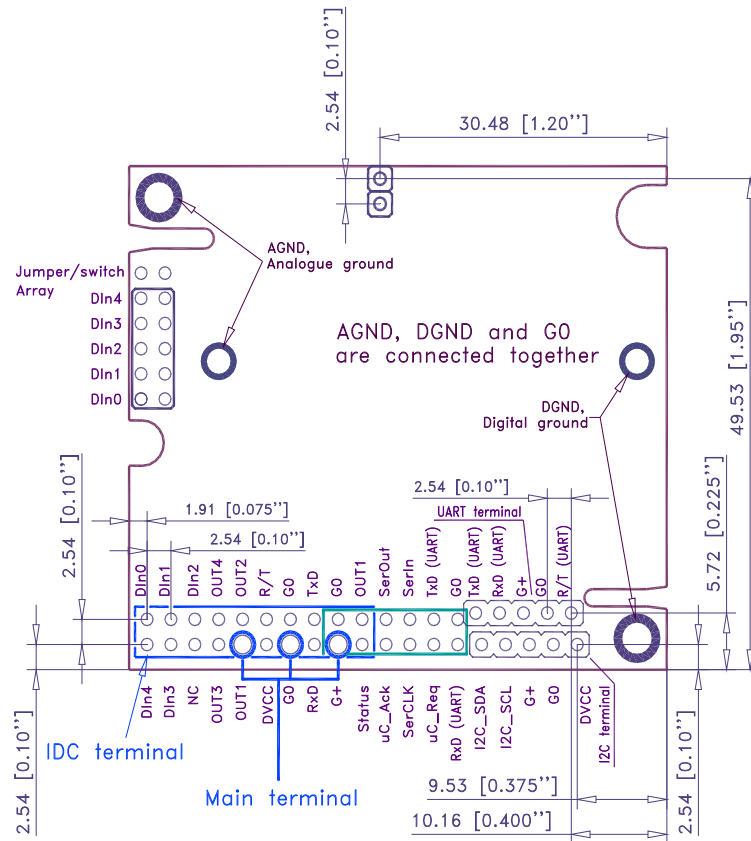

Figure 2 . *CO₂ Engine[®] K30* I/O notations, terminal positions and some important dimensions for mounting the K30 platform PCB into a host system (Top view).
The table below specifies what terminals and I/O options are available in the general **K30** platform (see also the layout picture Fig. 2). Please note, however, that in the **CO₂ Engine® K30** default configuration, only OUT1, OUT2, Din1, Din2 and Status have any pre-programmed functions. These are described in the chapter “Default Configuration”.
The modules are factory calibrated and ready for use directly after power up. There are several alternative ways to connect the *CO₂ Engine[®] K30* to a host system (see also figure 2):
- The two screw points in the upper left corner (having the IDC and edge connectors faced downwards, as in Figure 2) are connected to the *analogue* ground. They are the preferred choice for connection to some EMI shield, if so is required. This is normally necessary only if the application is such that large EMFs are foreseen. If this option is being used, precaution must be taken so as to exclude any power supply currents! Sensor reading instability is an indication of the need for shielding, or of improper enclosure system groundings.